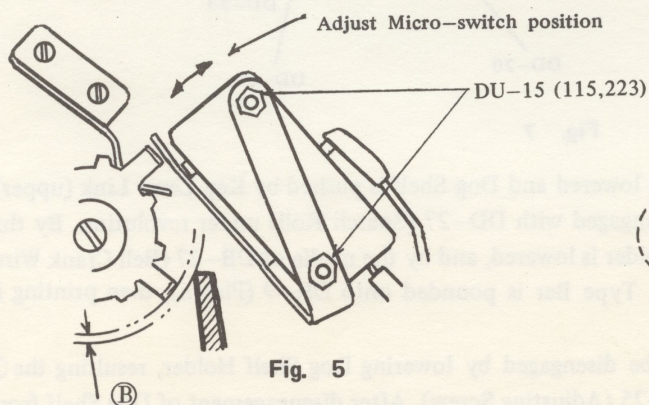

Fig. 5
When DV-20 (Switch Button) is depressed, the A portion of DV-3 (Switch Lever Unit) will push DV-7 (Switch Rotor), resulting rotating DV-7. DE-21 (Micro Switch Actuator) will be pushed up by DV-7, and the Switch will be placed ON position. Furthermore DE-31 (Shift Front Lock Plate) will be pushed by DV-7 and DE-35 (Shift Front Lock Arm) will be disengaged from DE-9 (Driving Rod), resulting releasing Shift Front Lock. (Fig. 5)
- (1) Adjust the position of DV-15 (Micro Switch) by loosening DV-25 (Screw) so that DV-7 (Switch Rotor) sufficiently pushes up DV-21 (Micro Switch Actuator) to make positive switch on condition. Care should be taken not to place DV-15 excessively close position with DV-7 because this situation may result heavy revolution of DV-7.
- (2) Adjust the positions of DV-11 (Pressure Spring) and DE-31 (Shift Front Lock Plate) to obtain smooth moving of the Switch.
- b) Revolution of DV-7 may be stuck if the clearance B between DV-7 and DE-31 is too narrow when DE-35 (Shift Front Lock Arm) is moved to the end by hand, consequently sufficient clearance should be provided by bending DE-31. But care should be taken not to provide the clearance B excessively because excessive clearance may result in sufficient amount of relief C of DE-35 from DE-9 when the Switch is turned on. (Fig. 5, 6)